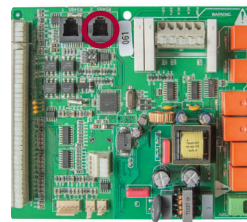

Figure 4
- Use a PRV cable with RJ10 ↔ RJ10 connection (included in the supply), so that to connect with the ventilation unit equipped with a PRV control panel (Fig. 4);